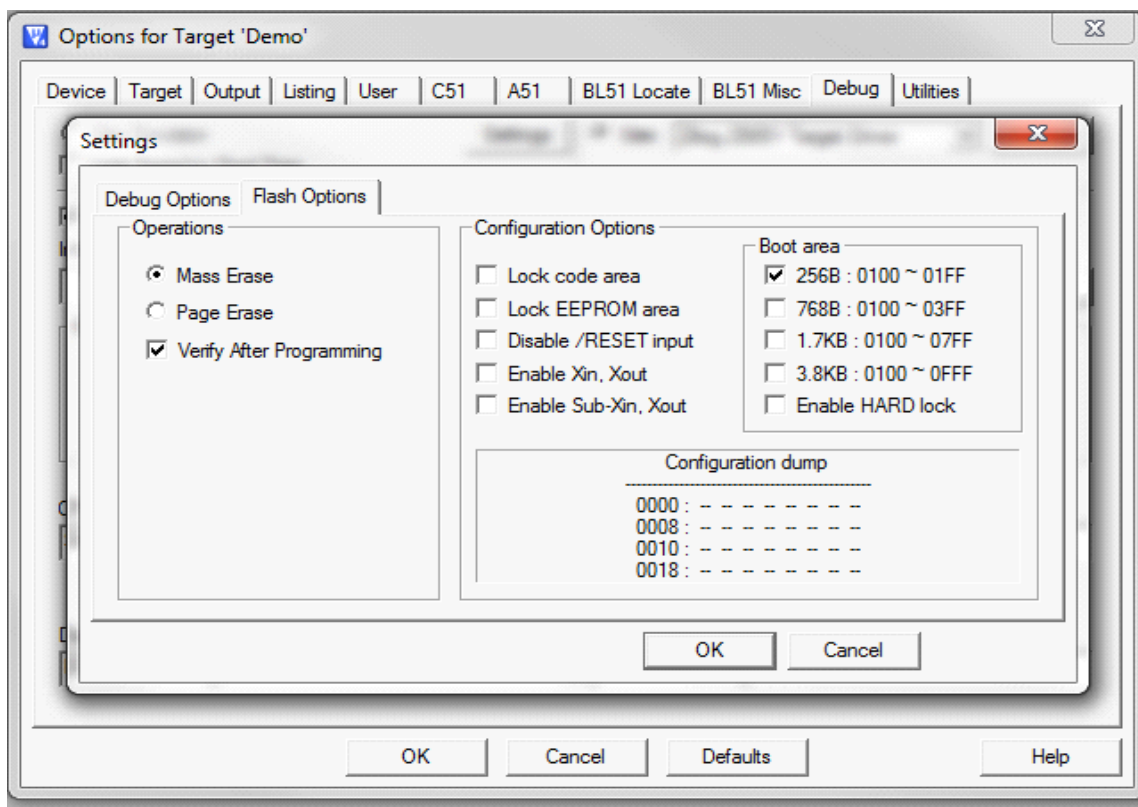

Figure 25. Configuring the Flash Options
8. Click the **Flash Options** tab. The Flash Options Settings dialog will appear, as shown in Figure 25. To select the proper options for Flash programming, refer to the Z51F0811 Product Specification \(PS0296\).